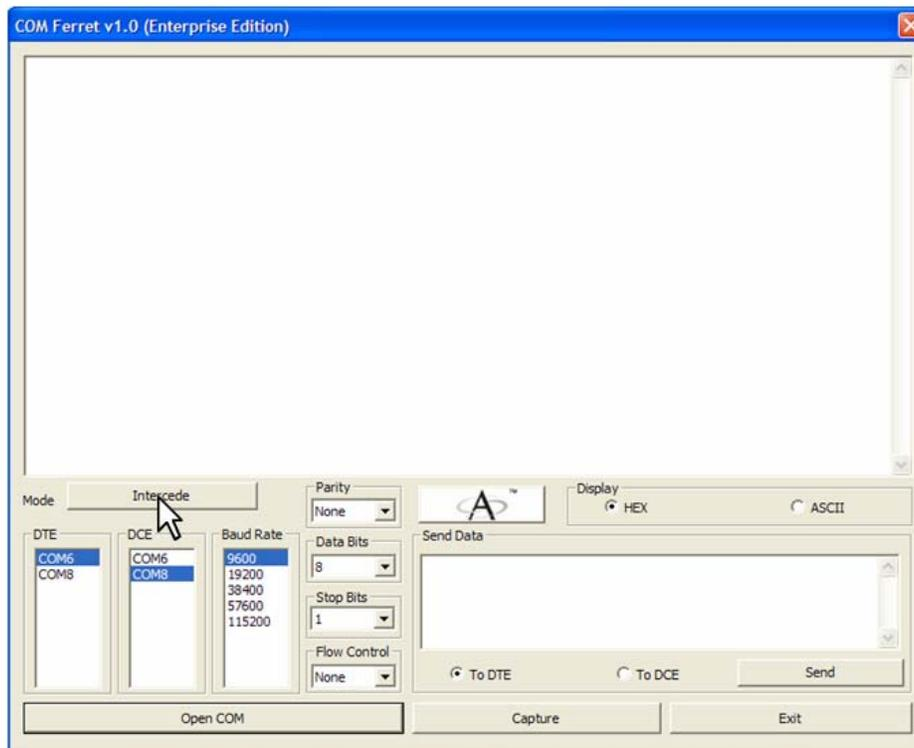

Figure 6 : The Mode button allows the user to change the current mode of operation
Ferret provides five (5) modes of operation to enable flexibility in analyzing an RS-232 communication link. By default, Ferret operates in “Intercede” mode when the application is initially launched. To change the mode, the user must press the “Mode” button as shown in Figure 6.